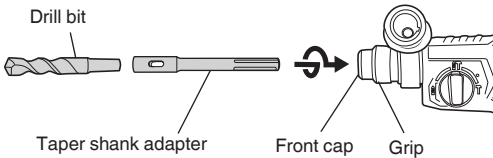
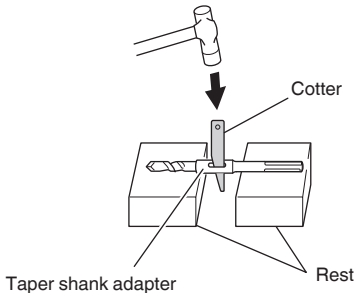

Fig. 15
Fig. 16
- (1) Mount the taper shank adapter to the rotary hammer (**Fig. 15**).
- (2) Mount the drill bit (taper shank) to the taper shank adapter (**Fig. 15**).
- (3) Turn the switch ON, and drill a hole in prescribed depth.
- (4) To remove the drill bit (taper shank), insert the cotter into the slot of the taper shank adapter and strike the head of the cotter with a hammer supporting on a rests (**Fig. 16**).